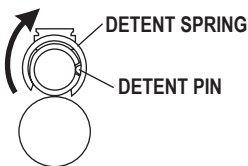

FIG. 6
- Darts can be removed by opening bolt (See Step 5A), holding muzzle up, and releasing the detent by pushing on detent spring on the side opposite the brass detent pin with left thumb, as shown in Fig. 6, until the dart is released. Darts equipped with flight stabilizers must be pushed out of the barrel from the breech to the muzzle.